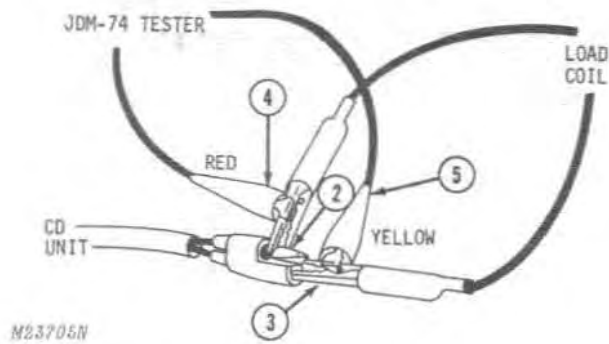

Fig. 4-Connections for Test #2
2. Connect either load coil lead to male terminal (brown lead) on CDI end of three-wire connector, Fig. 4.